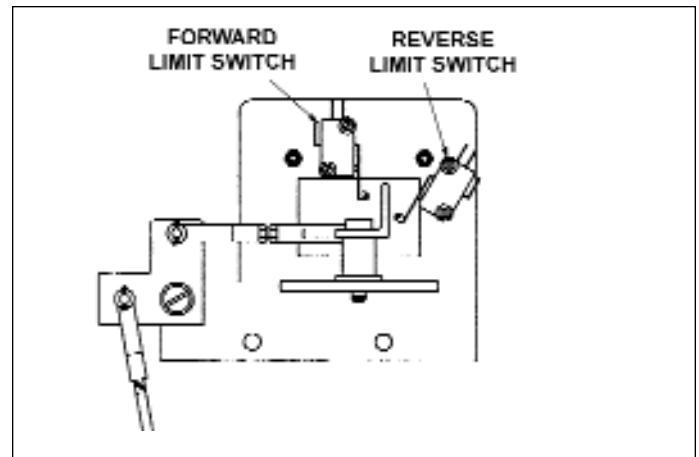

Figure 3 - Adjust Micro Switch Position
4. Locate forward or reverse micro switch to be adjusted. See Figure 3. Loosen micro switch mount screws and move switch so that shift lever will completely depress switch. Tighten screws. Recheck that circuit is energized shortly before shift lever comes to rest at end of shifting lever travel.